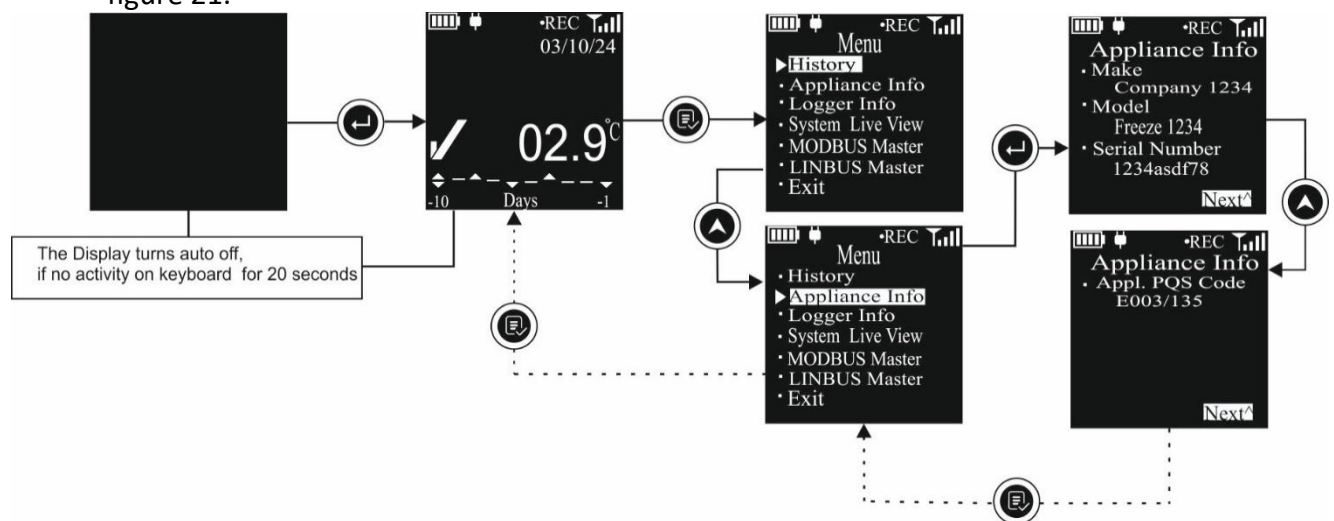

Figure 21 Appliance Information Menu
- Access the main Menu and select the Appliance Info option as per the steps shown in figure 21.
Note: The information shown in figure 21 are for example purpose only.